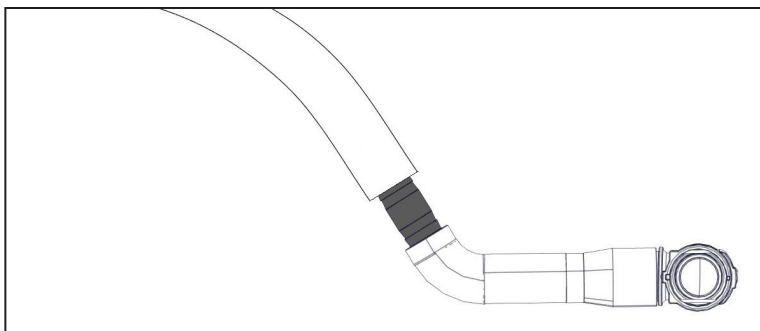

Figure 25 — Primary drain-back hose modification
- ☐ Rotate the quick connect to the orientation shown (Figure 25).
- ☐ Install the barbed hose coupler into the modified end of the coolant drain back hose (Figure 25).
- ☐ Install the 1 in heater hose onto the hose coupler with the curve of the hose aligned as shown. Do not tighten the hose clamps (Figure 25).